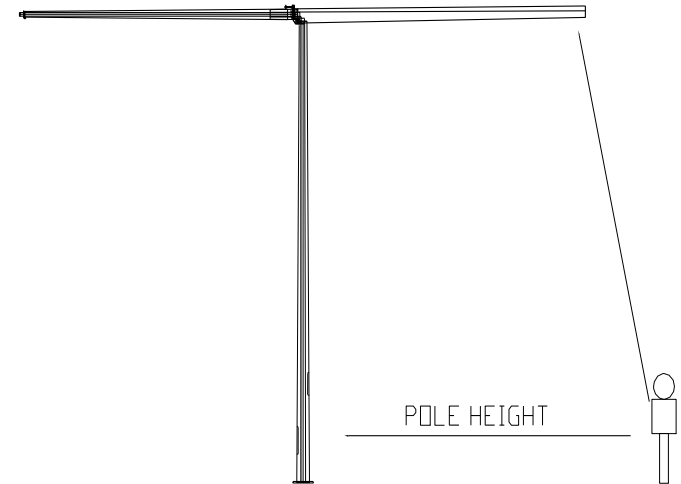

Figure 1: Steps 4 to 6
5. Holding the rope from a safe distance, initially only pull the apron free from the fixed base section and allow the top section to slowly swing downwards without effort and on its own accord. It is important that the lowering momentum developed is closely controlled. In particular, slow the momentum in a controlled way as the headframe and luminaires approach ground level. See Figure 1.